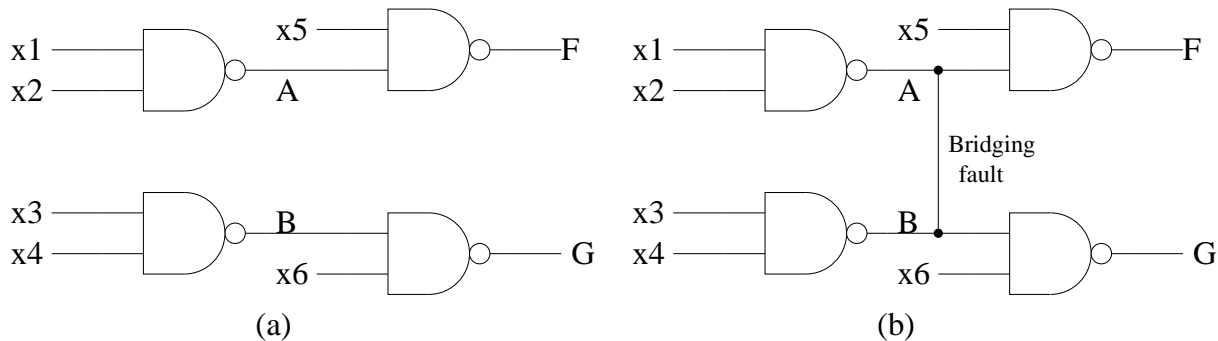

Figure 1: Circuit for Problem 1 - Original and with Bridging Fault
- (d) (4 points) Consider the circuit given in Figure 1(a) below.